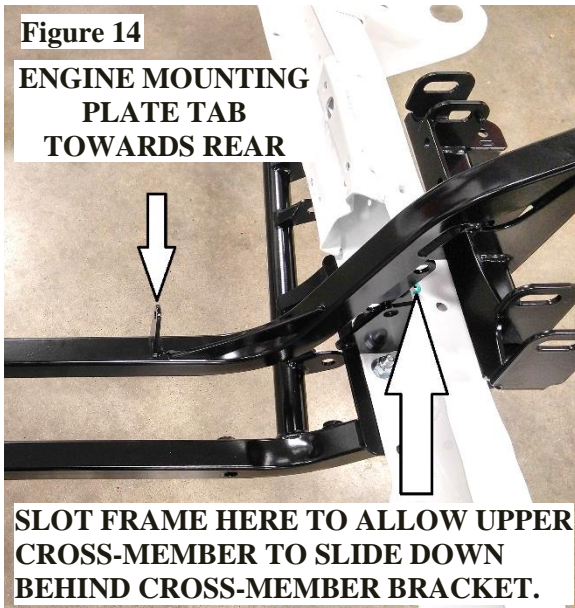

Figure 14
5. Set upper cross-member (#1) on the frame with the engine plate mounting tabs facing rearward. Mark and notch the upper frame rail for upper cross-member tabs to slide down over lower cross-member. The tabs on the upper cross-member will locate on the rear side of cross-member brace bracket. **(Figure 14 & 15)**